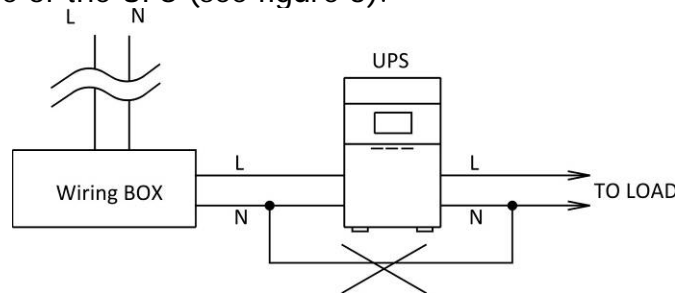

Figure 3
- ⚠ **Never** connect neutral line of input to neutral line of output. Otherwise, it will cause the damage of the UPS (see figure 3).